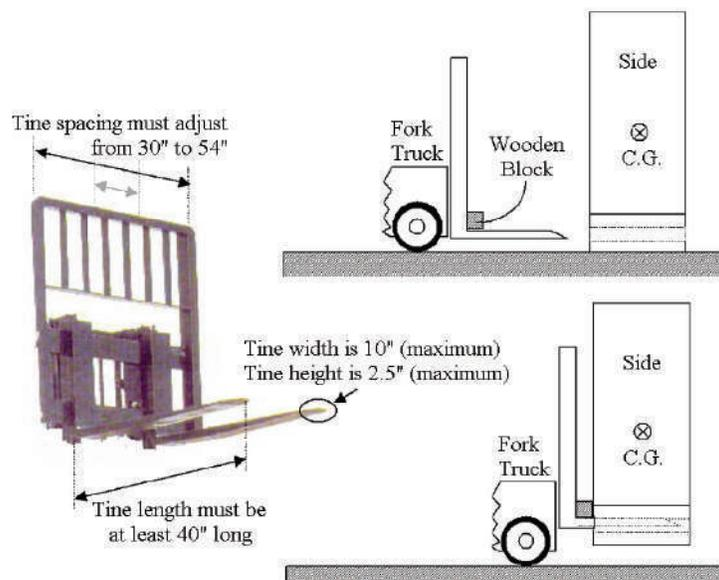

Figure 2-5: Proper Handling of GenIV Enclosure Using a Fork Lift Truck (Rear Insertion is Recommended)
- It is a good idea to place a wooden stop block in the corner of the tines as shown in Figure 2-5.